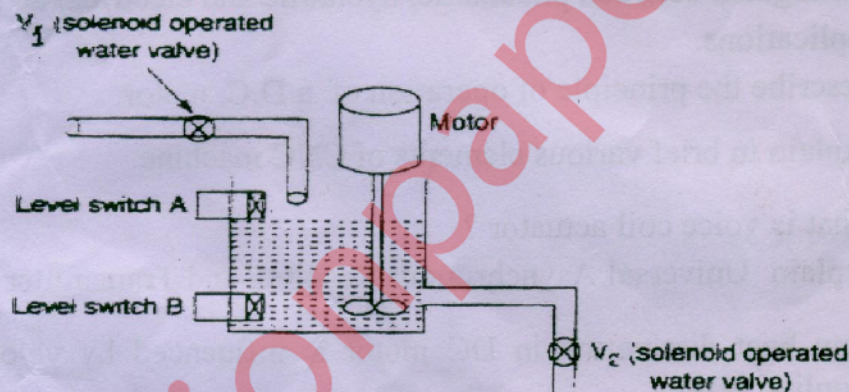

Figure 1
- Q.2** (a) How heat dissipation in DC motor is influenced by velocity profile and coupling ratio. (8)
- (b) Two double acting hydraulic cylinders A and B are selected for an industrial application. Draw electro electrohydraulic circuit for the sequence of operation (A+B+ delay B- A-) using 4/3 way double solenoid as the final directional control valve. (12)
- Q.3:** (a) Describe possible speed control strategies of A.C. Induction motors (8)
- (b) Discuss on voltage-torque characteristics of D.C. motor. (8)
- (c) Explain Autonomous Mobile Robot with its applications. (4)
- Q.4** (a) Explain data acquisition system and supervisory control and data acquisition (SCADA). (08)
- (b) A Process tank shown in Figure 1 is sequenced to mix liquid fertilizer (12) according to following sequence of operation.